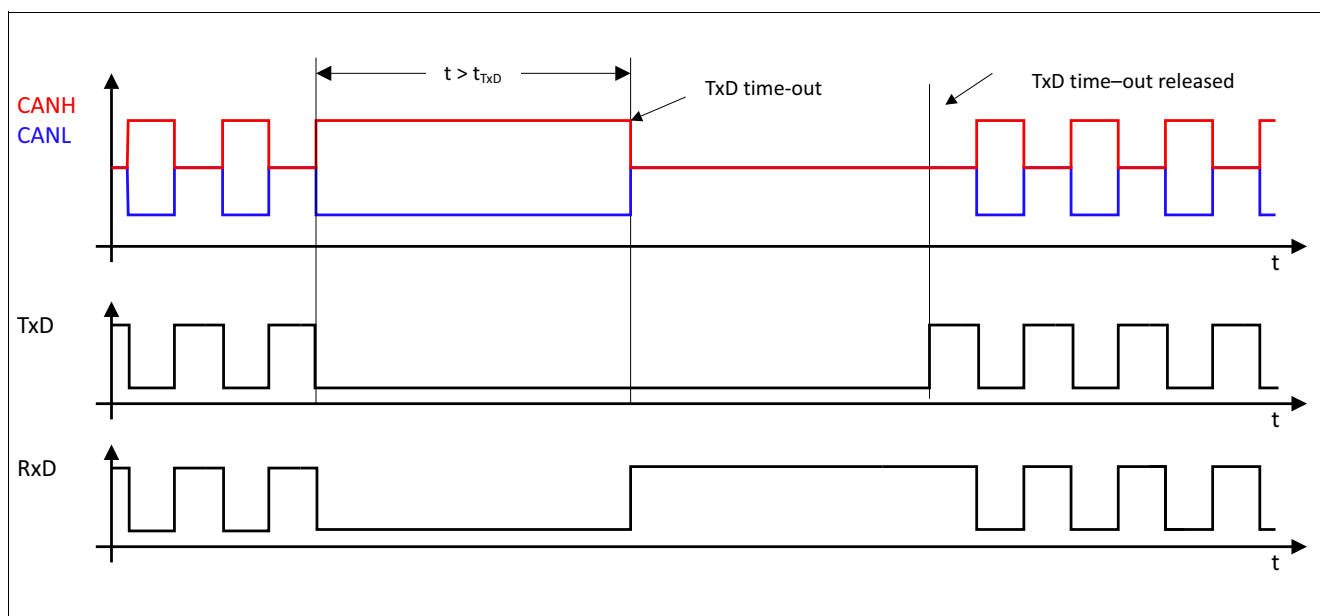

Figure 8 TxD time-out function
The TxD time-out feature protects the CAN bus against permanent blocking in case the logical signal on the TxD pin is continuously “low”. A continuous “low” signal on the TxD pin might have its root cause in a locked-up microcontroller or in a short circuit on the printed circuit board, for example. In normal-operating mode, a logical “low” signal on the TxD pin for the time  $t > t_{TxD}$  enables the TxD time-out feature and the TLE8250XSJ disables the transmitter (see Figure 8). The receiver is still active and the data on the bus continues to be monitored by the RxD output pin.
**Figure 8** illustrates how the transmitter is deactivated and activated again. A permanent “low” signal on the TxD input pin activates the TxD time-out function and deactivates the transmitter. To release the transmitter after a TxD time-out event the TLE8250XSJ requires a signal change on the TxD input pin from logical “low” to logical “high”.